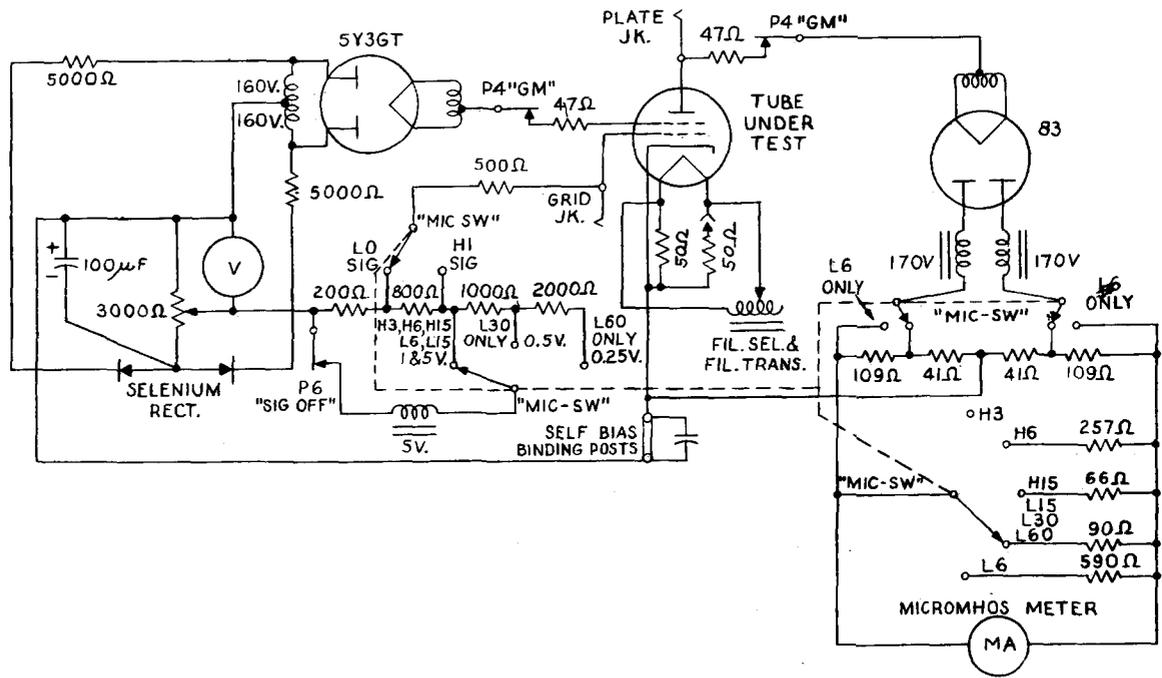

Fig. 2 - Basic Transconductance Circuit
2.20 When measuring indicated transconductance or testing cathode (filament) activity, the set is arranged to provide the circuit shown in Fig. 2. The 5Y3GT type full-wave rectifier tube supplies unfiltered (pulsating) dc potentials to the screen grid (if any) of the tube under test. Control grid bias is developed from a full-wave selenium rectifier circuit which derives the ac voltage supply from the screen grid high voltage transformer winding. The unfiltered plate potential is derived from a separate rectifier employing an 8-type tube with balanced transformer secondaries supplying ac potentials of 170 volts to each plate of the rectifier tube. The 83-type full-wave rectifier tube is of the mercury vapor type and is used